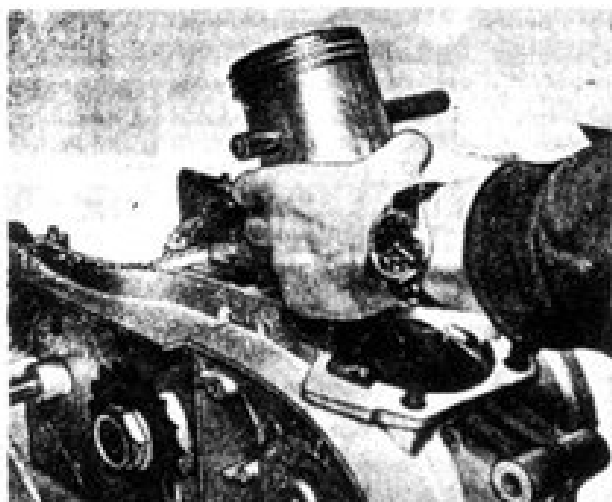

Fig. 1. Piston pin pressing-out.
7. Tap the piston pin by means of a hammer and mandrel or a drift (Fig. 1) holding the piston with a hand.